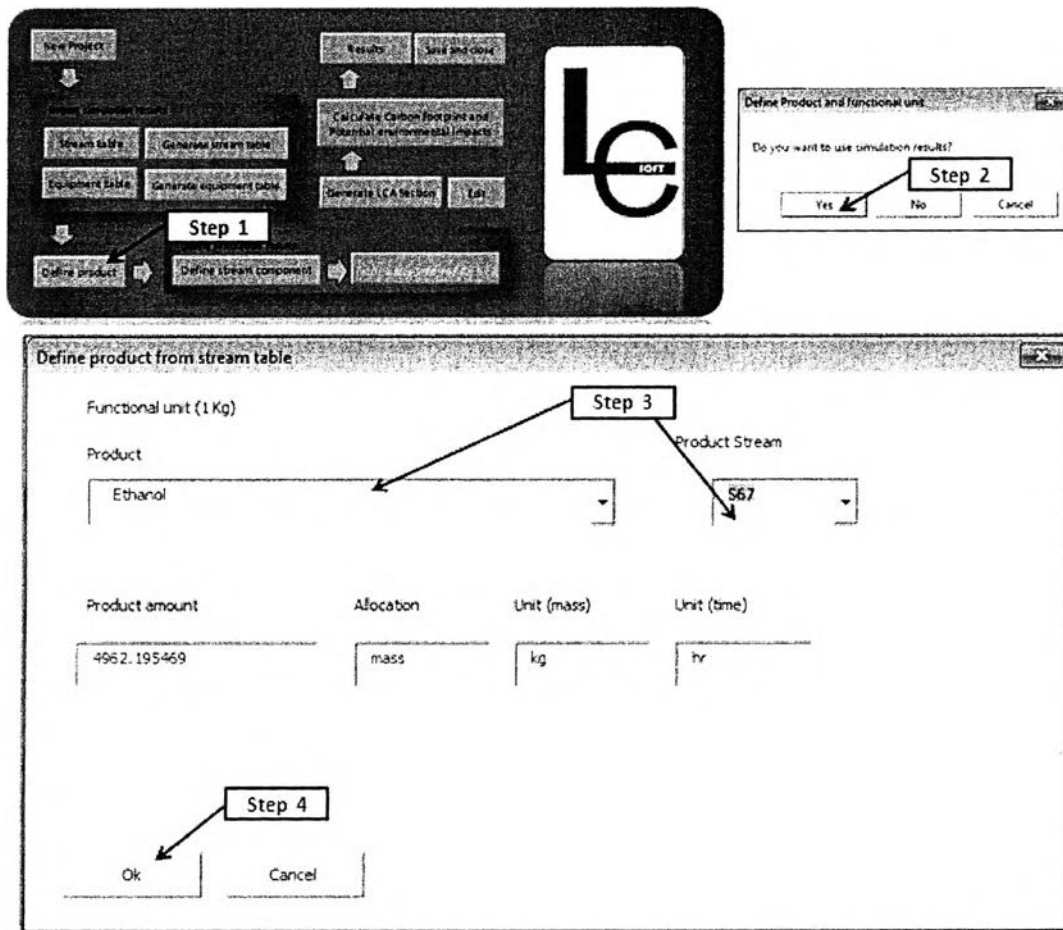

Figure A.13 Steps to define product using simulation results
Step 1: Click “Define product” button as shown in Figure A.13.